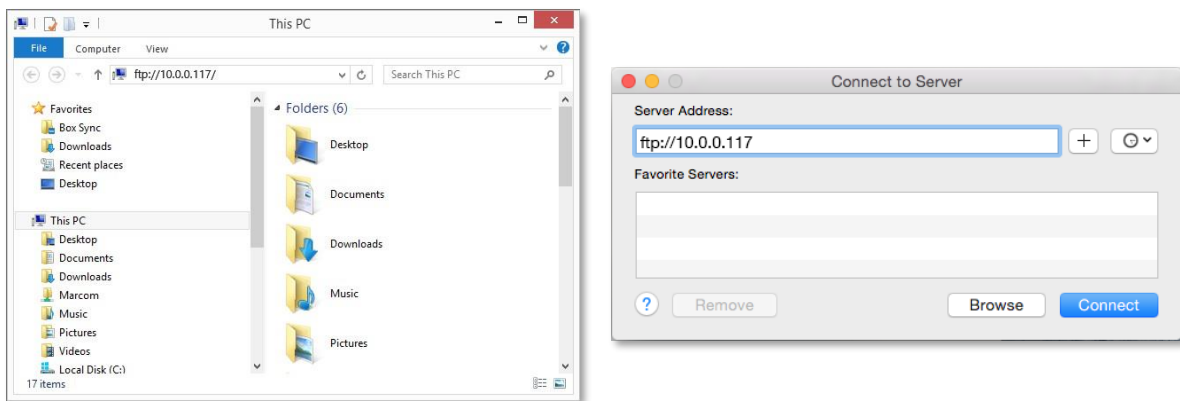

Figure 66: Enter the Digital Analyzer's IP address in File Explorer (left) or Finder (right).
1. On a Windows computer, open Windows Explorer or File Explorer. On a Macintosh computer, open Finder and select **Connect to Server...** from the Go drop-down menu. Once the file manager is open, type **FTP://(IP_address_here)** as shown in **Figure 66**.